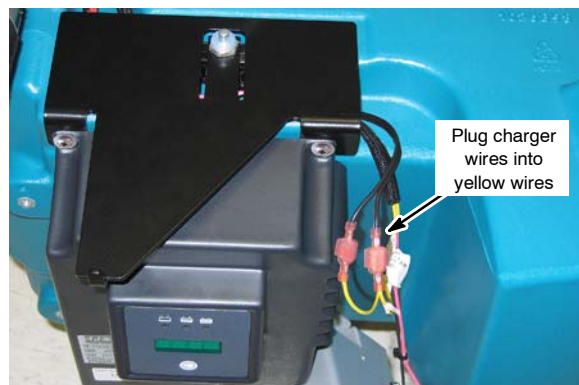

Fig. 5
- Plug the double black wires into the yellow wires (#4 and #54) that were originally on the charger interlock switch (Figure 5).